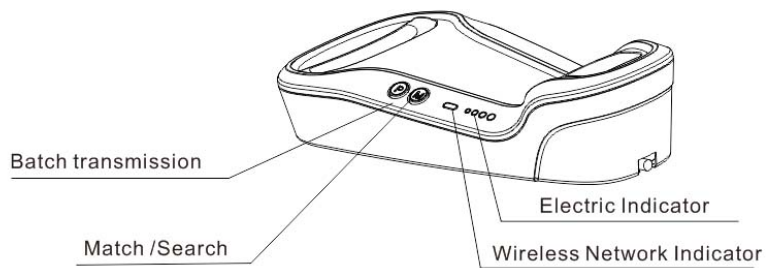

Figure 1-2
- ✧ Batch mode: Without considering the existence of Bluetooth network, the scanner automatically saves the bar code to the user FLASH after decoding successfully, places the wireless gun on the base, and presses the "P" key on the base (see Figure 1-2) to realize the batch transmission.